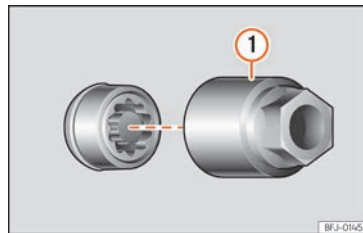

Fig. 37 Anti-theft wheel bolt with cap and adapter.
- Insert the special adapter »» Fig. 37 ① (vehicle tools »» page 41) onto the anti-theft wheel bolt and push it on as far as it will go.